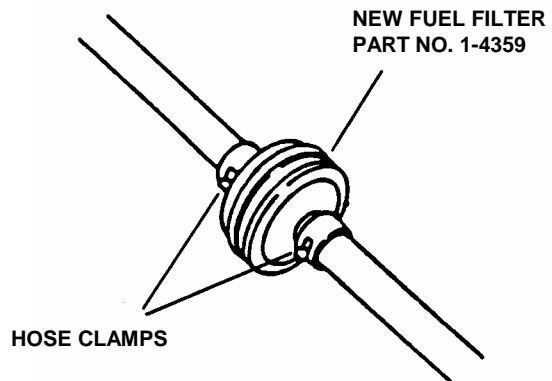

FIGURE 3.8
- Install new fuel filter. Reinstall hose clamps. See Figure 3.8.